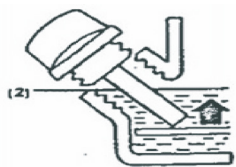

Figure 3
5. Add SAE5W-30 cold area and SAE15W-30 hot area lubricating oil into Machine gearbox. Place the machine horizontally and fill it through the oil hole above the gearbox. When checking the oil level, insert the dipstick (note: do not rotate the dipstick), the oil level should be between the upper and lower limits of the dipstick (see Figure 3).